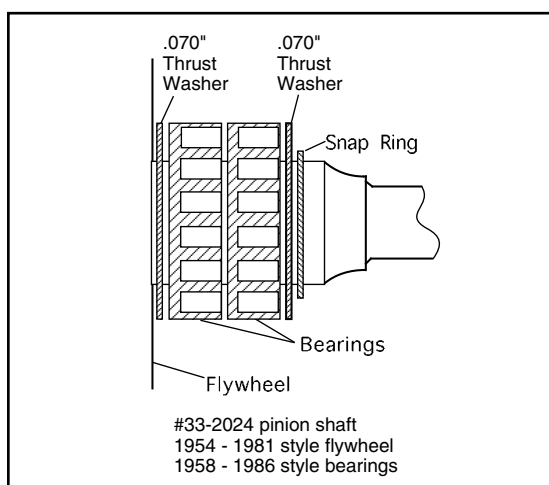

Figure 1
1. 1954 to early 1981 flywheels or S&S® SE or L style flywheels, and S&S pinion shaft 33-2024 - Two .070" thrust washers are normally used. Typical washer and bearing arrangement - .070" washer against flywheel, bearings, .070" washer, and snap ring. See **Figure 1**.